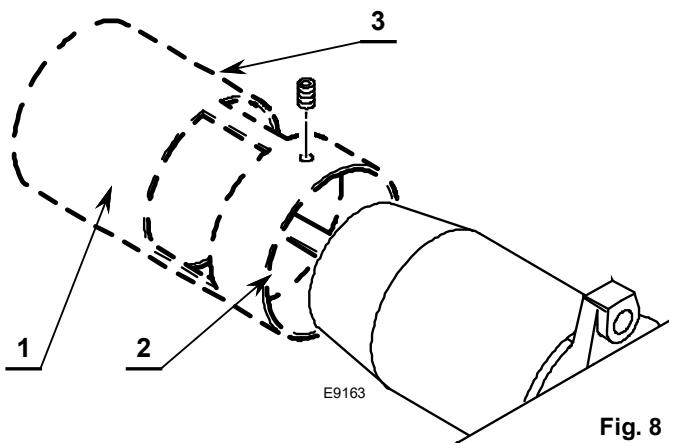

Fig. 8
- if necessary insert the recirculating pipe 1)(Fig. 8) onto the blast tube of the burner 2) and fix it with the screw 3).